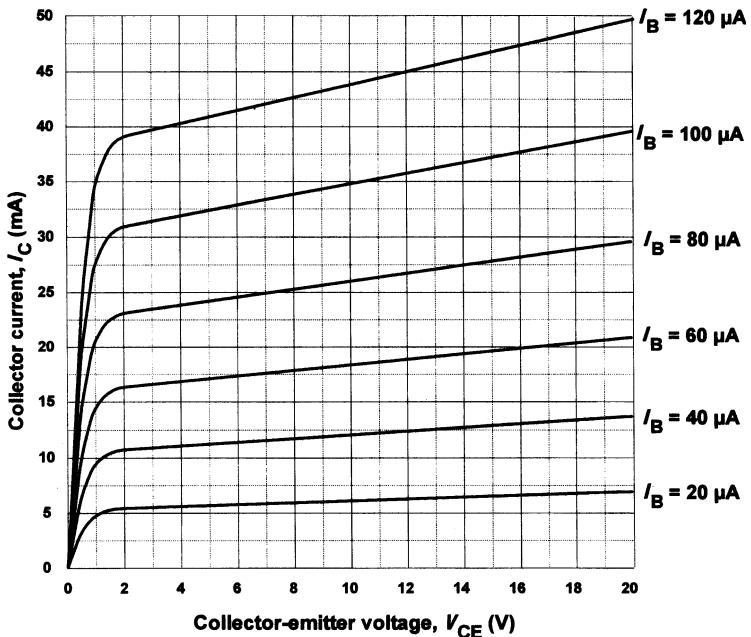

Figure A2.17
37. The output characteristics of a bipolar transistor are shown in Fig. A2.17. If the transistor operates with  $V_{CC} = 15\text{ V}$ ,  $R_L = 500\Omega$  and  $I_B = 40\mu\text{A}$  determine: